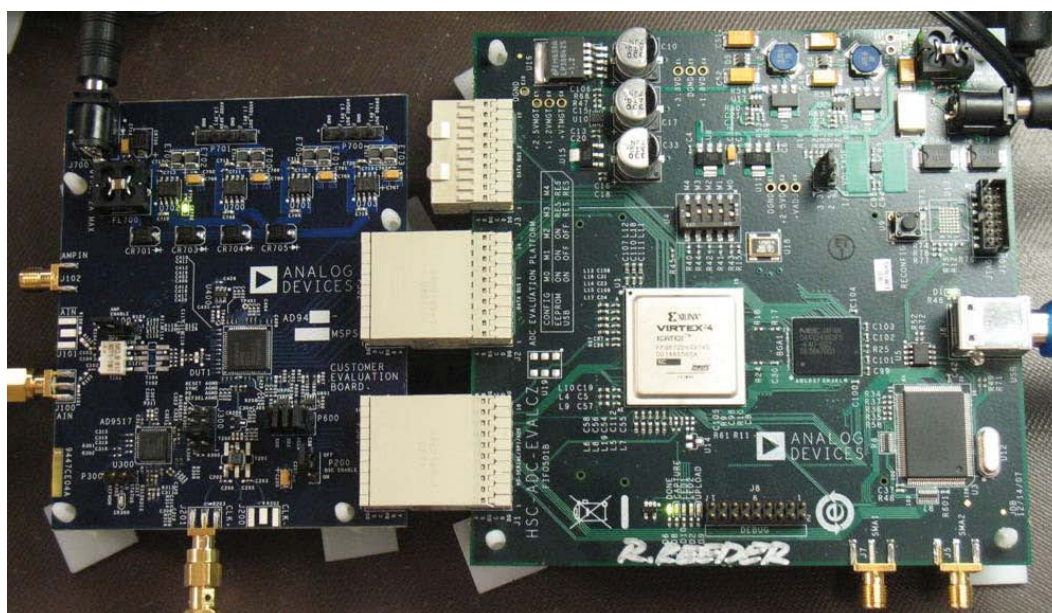
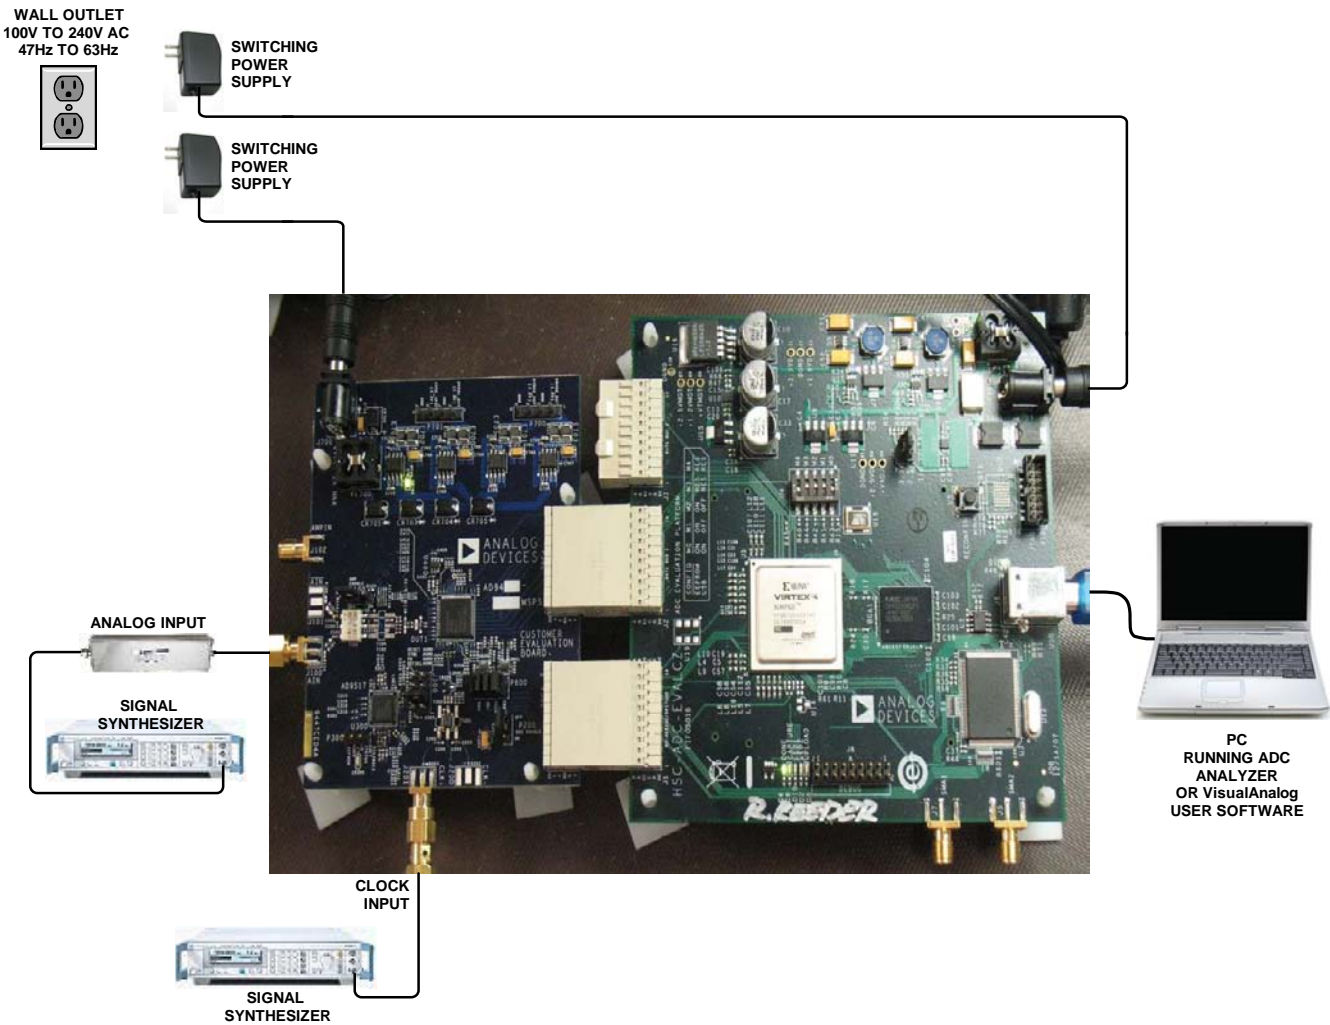

Figure 1. AD9467-250EBZ Evaluation Board and HSC-ADC-EVALCZ Data Capture Board
Figure 2. Evaluation Board Connection
The AD9467 evaluation board provides all of the support circuitry required to operate the AD9467 in its various modes and configurations. Figure 2 shows the typical bench characterization setup used to evaluate the performance of the AD9467. It is critical that the signal sources used for the analog input and clock have very low phase noise (<1 ps rms jitter) to realize the optimum performance of the signal chain. Proper filtering of the analog input signal to remove harmonics and lower the integrated or broadband noise at the input is necessary to achieve the specified noise performance (see the AD9467 data sheet).
If an alternative data capture method to the setup shown in Figure 2 is used, optional receiver terminations, R500 to R509, can be installed next to the high speed backplane connector, P502.
1. Connect the evaluation board and the HSC-ADC-EVALCZ as shown in Figure 1 and Figure 2.